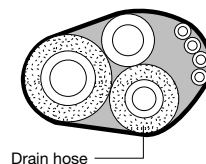

Figure 24
- After completing installation of refrigerant lines, wiring and drain connections, bind the tubing, wiring and drain hose (check if local codes permit binding) into a bundle by using tape at 100 or 200 mm (4" to 8") intervals. Make sure the drain hose is at the bottom of the bundle (Figure 24).